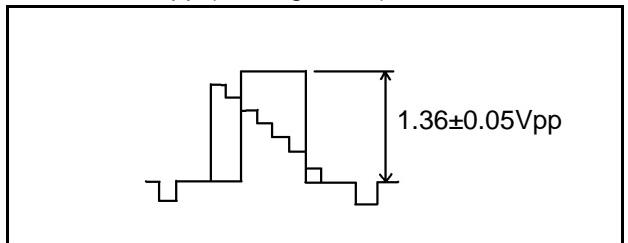

Figure 51. YC Y-level output Adjustment
2. Adjust B18(YUV Y-level) DAC data is $1.36\pm0.05vpp$ (see Figure 51).